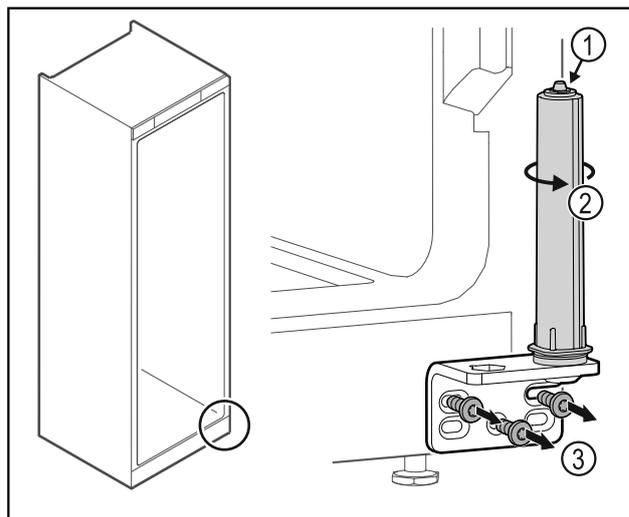

Fig. 26
- ▶ Do not disassemble the door closing system Fig. 26 (1).
- ▶ Turn the closing system Fig. 26 (2) until it clicks.
- ▶ Unscrew the hinge Fig. 26 (3).